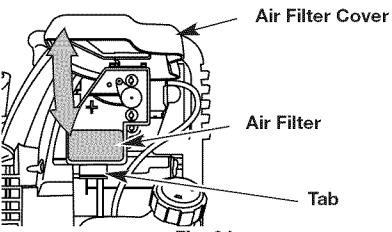

Fig. 24
1. Open the air filter cover. Push the tab on the underside of the cover inward. Then pull the air filter cover out and up. (Fig. 24).
7. Reinstall the air filter cover. Position the slots on the top of the air filter cover onto the tabs at the top of the back plate (Fig. 24).
8. Swing the cover down until the tab on the air filter backplate snaps into place in the slot on the air filter cover (Fig. 24).